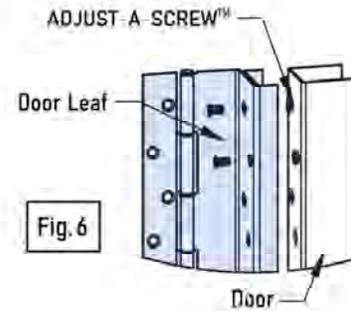

Fig. 6
#### Adjustable Hinge (Fig 6)
**Special Note:** If door is properly aligned, install and tighten remaining screws. If door requires alignment for proper fit, make this adjustment with four screws installed without removing door. Remove one screw and insert Allen wrench through hole into Adjust-A-Screw (Fig 6). Turn Adjust-A-Screw in direction desired for adjustment. One full turn of Allen wrench is equal to 1/16". Reinstall screw. Adjust remaining screws in same manner. Close door to verify door is aligned properly in opening. The balance of Adjust-A-Screw should be adjusted in same manner until all are resting firmly against inside face of hinge. Then install and tighten remaining machine screws. Be sure adjustable angle is pressed firmly against face of door as screws are tightened.